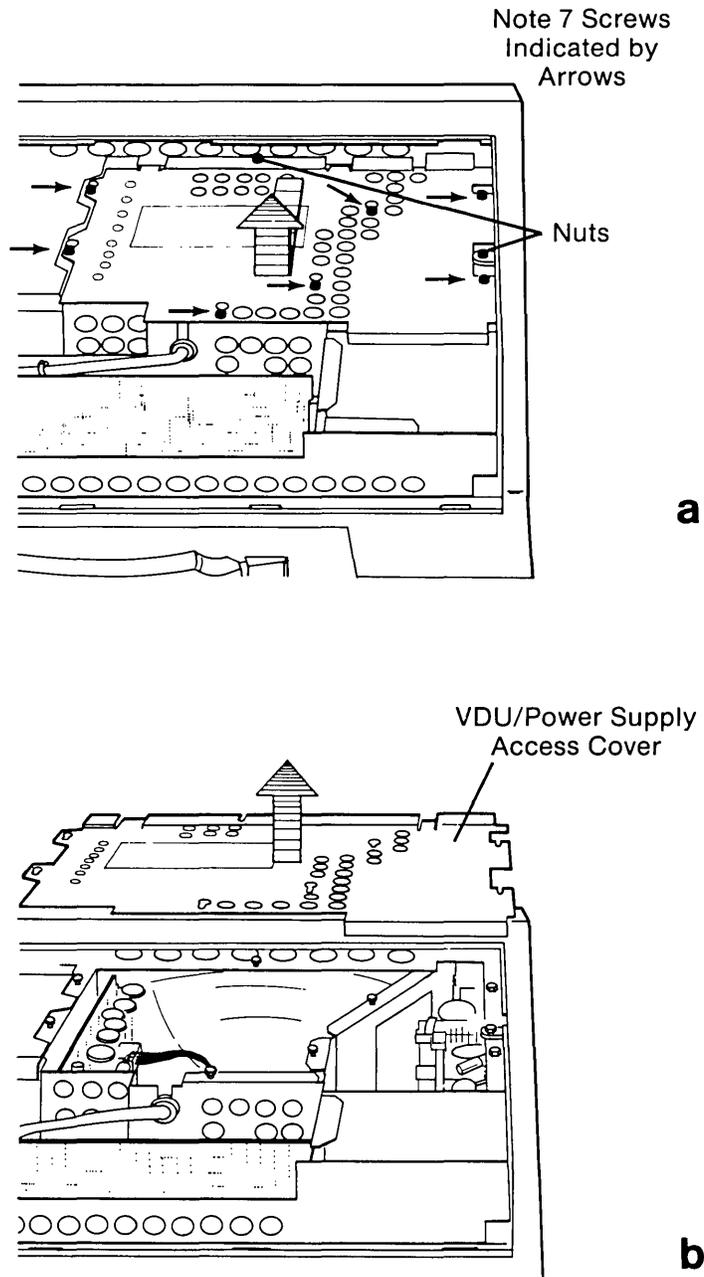

Figure 4-15. Removing the VDU/Power Supply Metal Access Cover.
Loosen (DO NOT REMOVE) the six (6) Phillip screws and the two (2) 1/4" nuts which hold the metal access cover over the Power Supply/VDU assembly compartment. Slide the metal cover toward the rear of the computer and lift it off (see Figure 4-15 a & b).